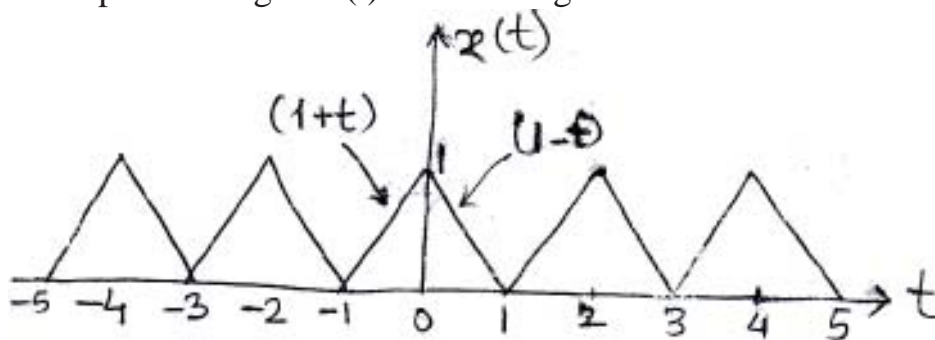

Fig. 2
5. a) Find the Exponential Fourier series and plot the magnitude and phase spectra for the periodic signal $x(t)$ shown in fig.2. 10